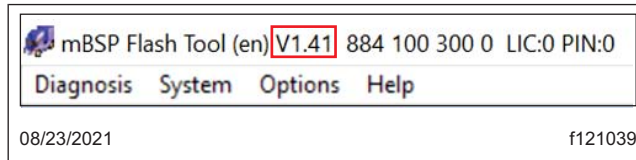
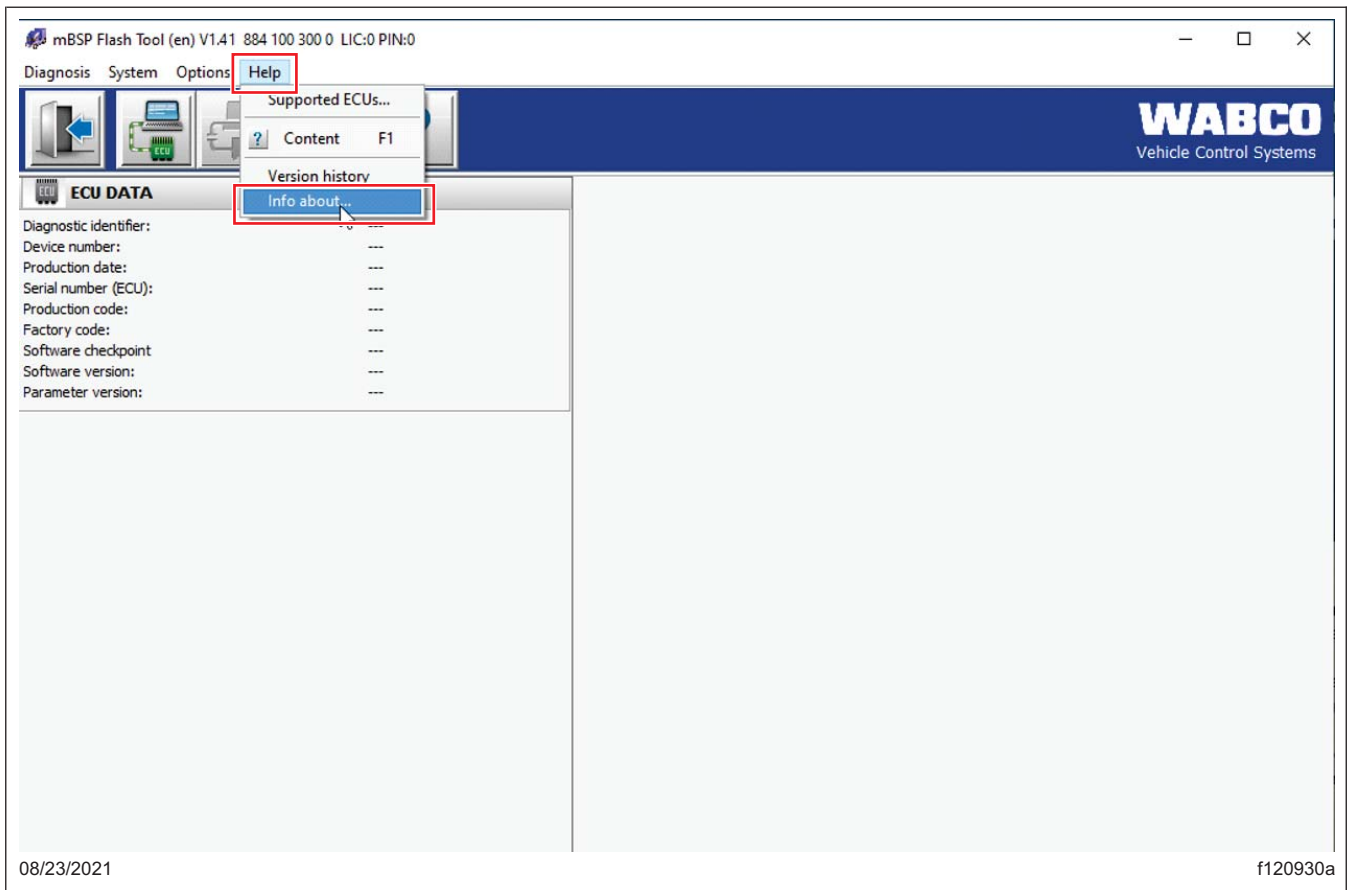
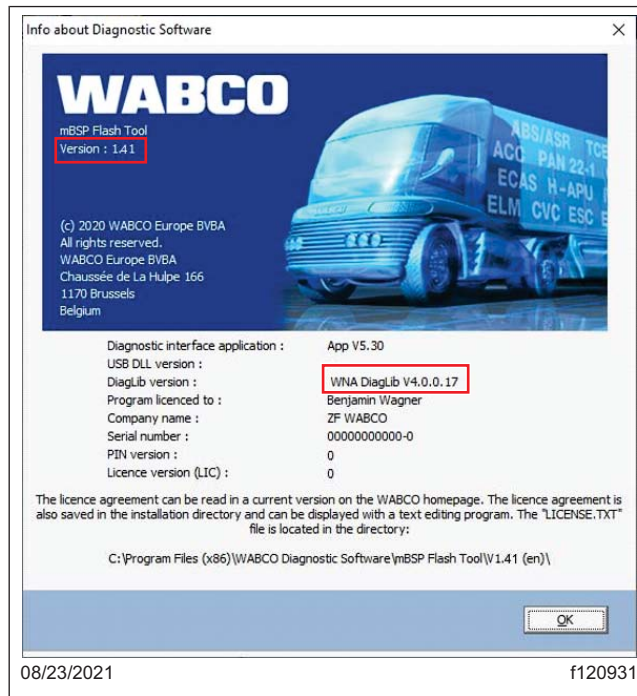

Fig. 1, Confirming mBSP Flash Tool Software Version (1.41)
Fig. 2, Opening Info about Diagnostic Software Window
Fig. 3, Info about Diagnostic Software Window
5. An mBSP flash tool software version 1.41 (See Fig. 1), WNA DiagLib Version **V4.0.0.17** is required to perform this ABS ECU software update procedure. If the mBSP flash tool software is already installed, check the mBSP flash tool software version; go to 'Help,' then select 'Info about....' See Fig. 2 and Fig. 3.